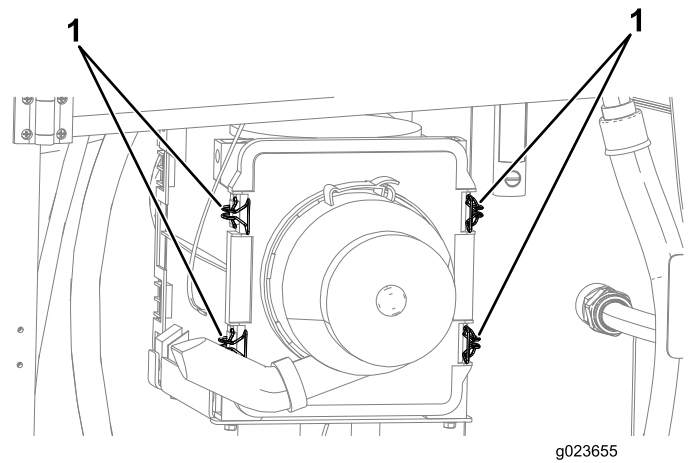

Figure 118
4. Place air-cleaner cover inward until it is fully seated, and secure it with the latches (Figure 118).
5. Pull the 4 latches for the air-cleaner cover outward (Figure 118).